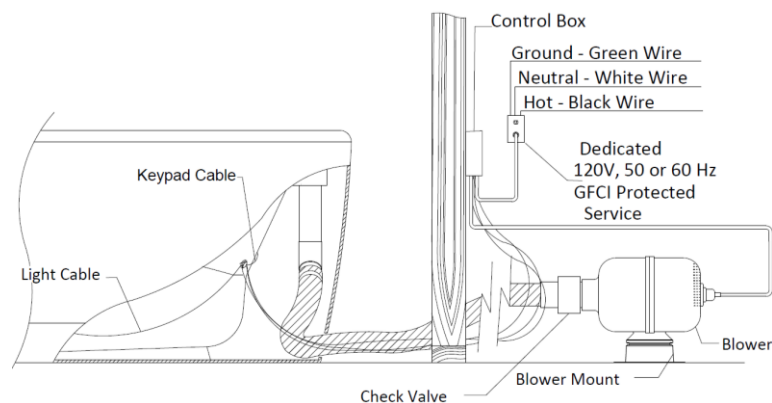

Figure 8a- Above Floor Installation
10. During installation if it is preferred to run the blower hose on top of the floor, a 2-1/2" [6.35cm] diameter holes can be drilled at the bottom of the skirt. A means to cover the hole, hose and wires is not provided. See **Figure 8a**